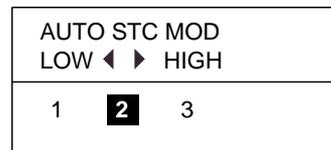

Figure 2-8 Dialog box for automatic adjustment of STC
1. Press the [STC] key once or twice to show the dialog box shown in Figure 2-8.